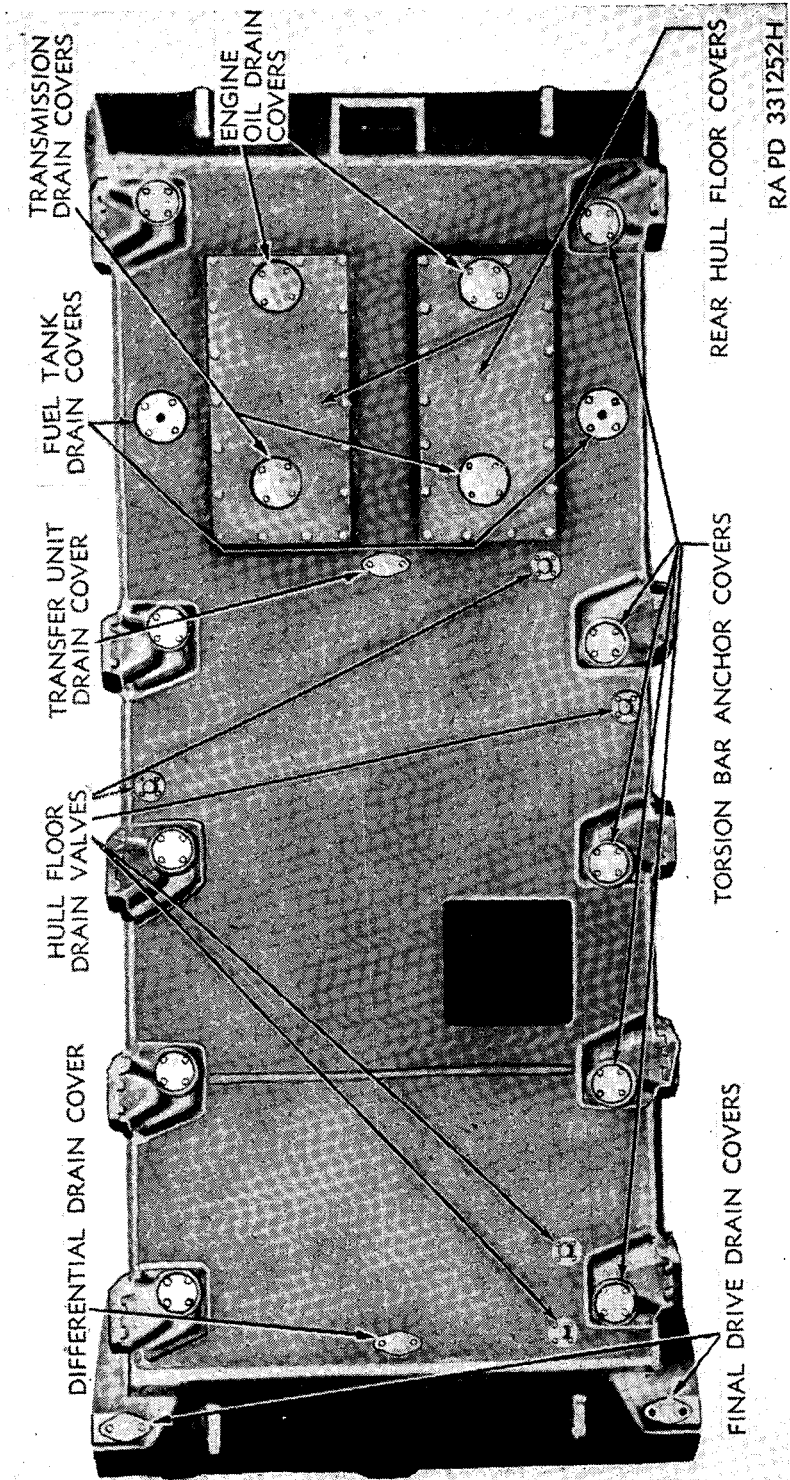

Figure 158. Drain openings in hull.
a. DESCRIPTION. There are five hull floor drain valves located at various places on the hull floor (fig. 158). To allow water to drain from the hull floor, push down on knob to compress spring and turn knob one-quarter turn to right. This will lock valve in the open position. After water has drained, turn knob to left to release lock and close valve.